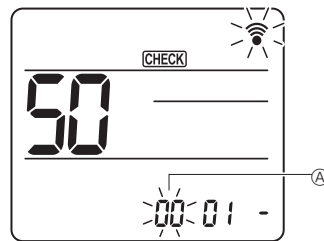

Fig. 6-17
- ② Setting the unit number
Press the [DOWN] button to set unit number ①. (Fig. 6-17)